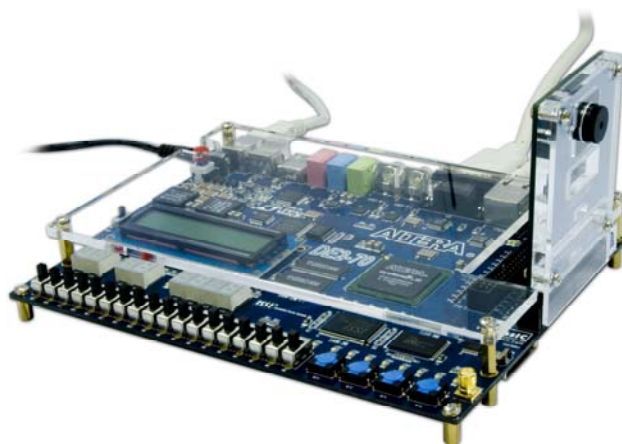

Figure 3.2. The Connection Setup for DE2-70 users
1. Ensure the connection is made correctly as shown in Figure 3.2. Make sure the D5M is connected to **J5 (GPIO 1)** of the DE2-70 board.